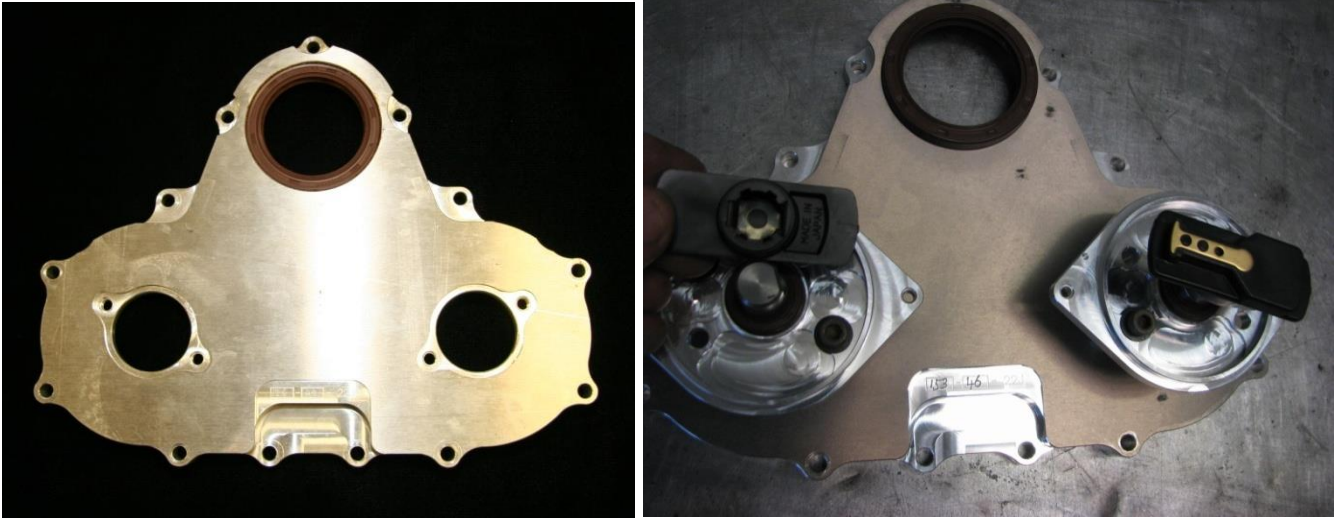

Figure 155 – Installation of Seals &amp; Assembly
- Fresh seals must be fitted to the case and to the distributor mounts as shown in Figure 155. Note that later engines use a larger crankshaft timing gear and a thinner oil seal to suit. Oil seal size must be matched to fit the gear used.